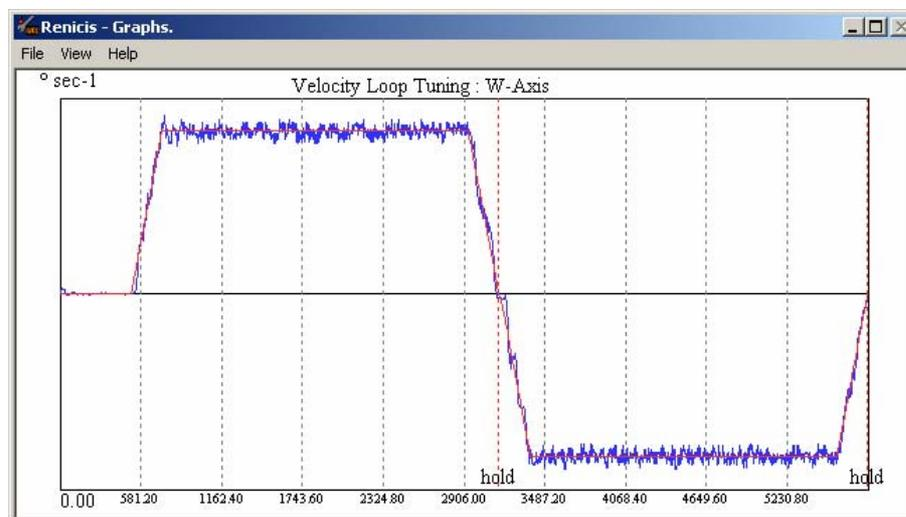

Figure 21
3. If the machine is stable, increasing the uncompensated gain by a further 10 – 20%. If the machine is displaying instability as for the Y axis in figure 21, increase the value of K_A (refer to step 2) in the unstable axes by a further 0.00005 (to do this follow step 2) and repeat the uncompensated gain test.